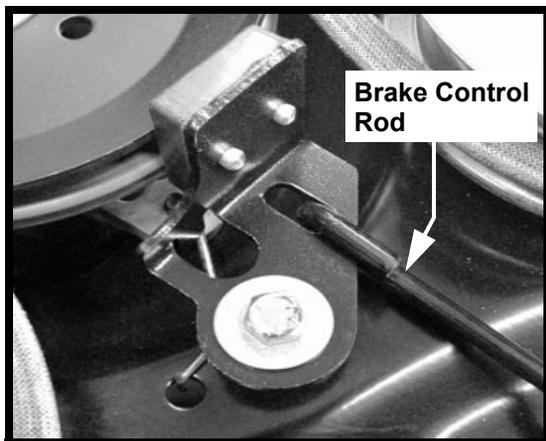

FIGURE 3
6. Remove the hardware that secures the deck brake assembly, torsion spring and shoulder spacer. Retain all parts and hardware except discard the 5/16-18 nylon lock flange nut. Figure 3.